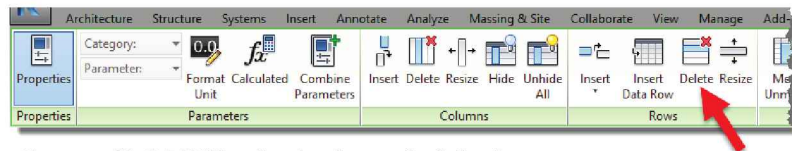

FIGURE 12-2.7 Ribbon for the door schedule view
If you select the door (i.e., the row) in the schedule and then click *Highlight in model* on the *Ribbon* (Figure 12-2.7), Revit will switch to a plan view and zoom in on that door. This makes it easy to find a door that does not have a number or any door you are not sure where it is.
14. Now click the **Delete** button from the *Ribbon* (Figure 12-2.7).